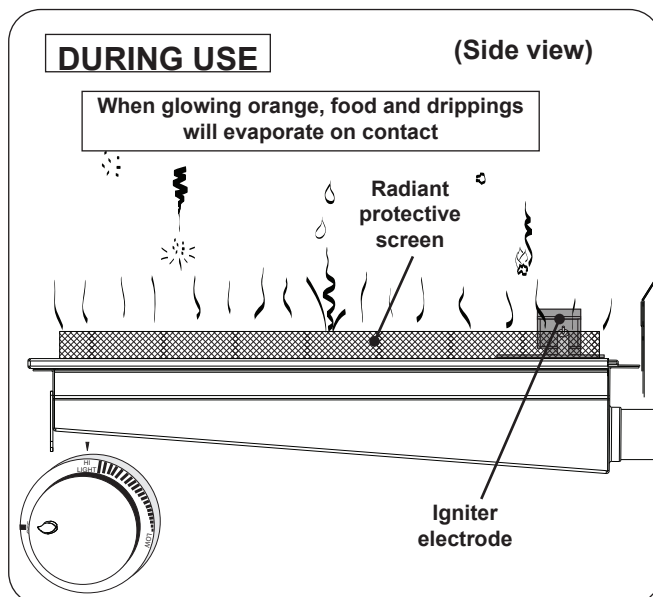

Fig. 35-3 Infrared burner - DURING USE
- **DO NOT place food on the cooking grid until the infrared burner glows orange (Fig. 35-3).** Drippings are heated and evaporate instead of sticking to and impairing burner function.